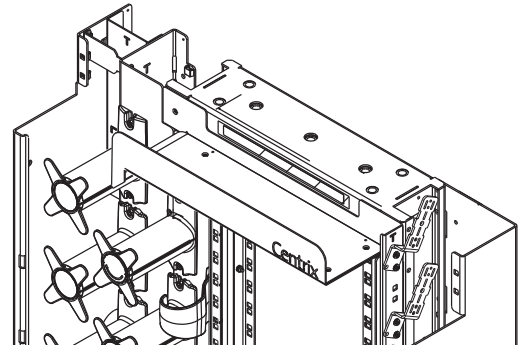

Figure 12
**Step 10:** If your standard local installation practice requires the rack to be supported from the top (Figure 12), use a 2.7 mm (1/2 in) diameter J-bolt or threaded rod to secure the rack to the overhead support. This hardware is not provided but is available from your overhead rack supplier.